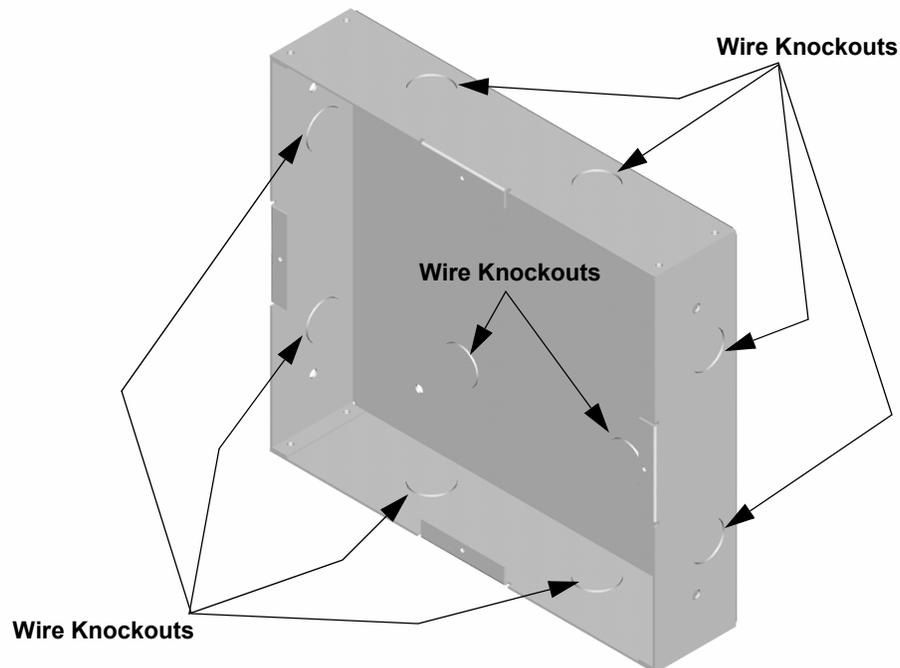

Figure 4-12 Back Box Knockout Locations
2. Remove knockout holes as needed for wires. See Figure 4-12 for backbox knockout locations.
- Remove the desired knock out. See Figure 4-12.